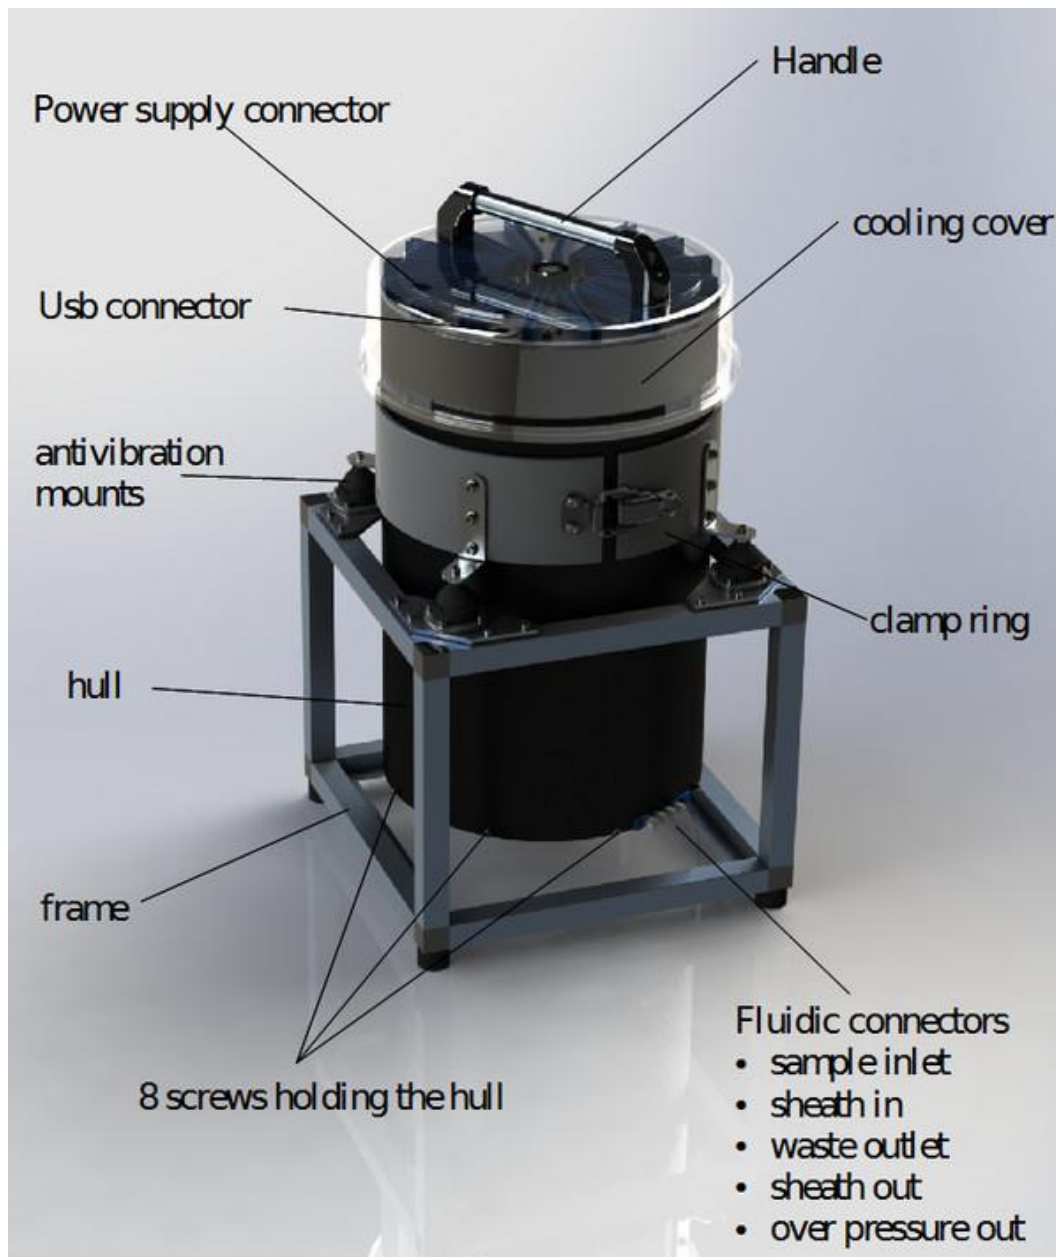

Figure 3.1 CytoSense in shipboard suspension.
To inspect the CytoSense internally after transport, the CytoSense needs to be opened. See figure 3.1 for reference.
4. Mount the cooling cover (figure 3.1).
Remove the small plugs from the sample input line, waste outlet tube and pressure relief tube at the bottom of the CytoSense (see figure 3.1). You may cut a piece from the sample and/or waste line to shorten it to the desired length for your purposes.